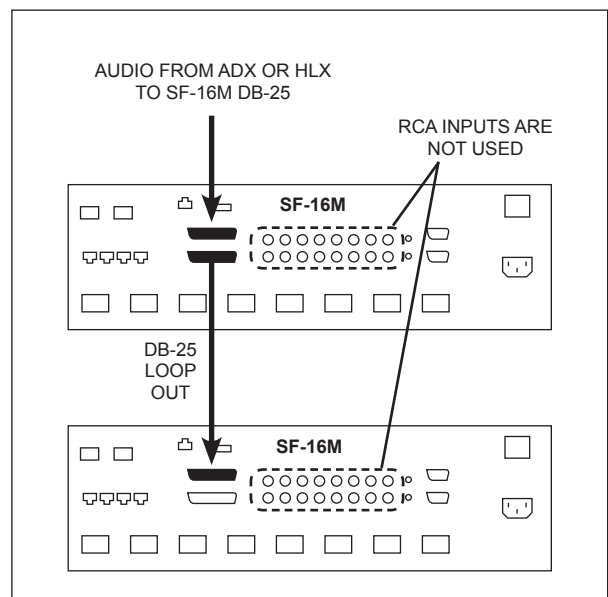

Figure 3
- 2. Direct input from an Audio Authority audio matrix:** The SF-16M may serve as an amplifier for Audio Authority audio matrix switchers such as the ADX-0808/ADX-1616 and the HLX 2278 audio output card (Figure 3). In this scenario, the SF-16M receives all audio content from the ADX or HLX and passes the audio through to the amplified outputs. The HLX or ADX provides all of the matrix switching (See figure 3 below). If the volume levels will be controlled from the HLX or ADX matrix, turn up all SF-16M outputs to maximum volume (-0dB).